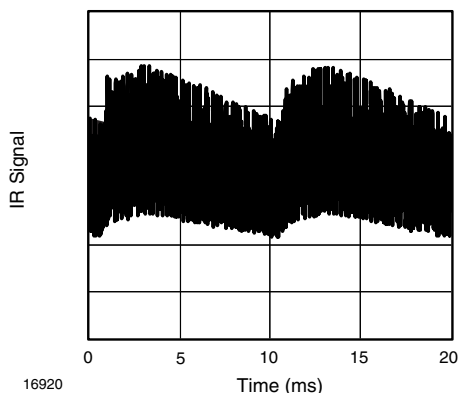
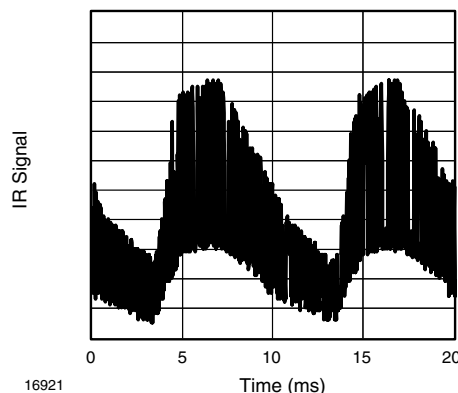

Fig. 13 - IR Signal from Fluorescent Lamp with Low Modulation
Fig. 14 - IR Signal from Fluorescent Lamp with High Modulation
- Strongly or weakly modulated patterns from fluorescent lamps with electronic ballasts (see Fig. 13 or Fig. 14)